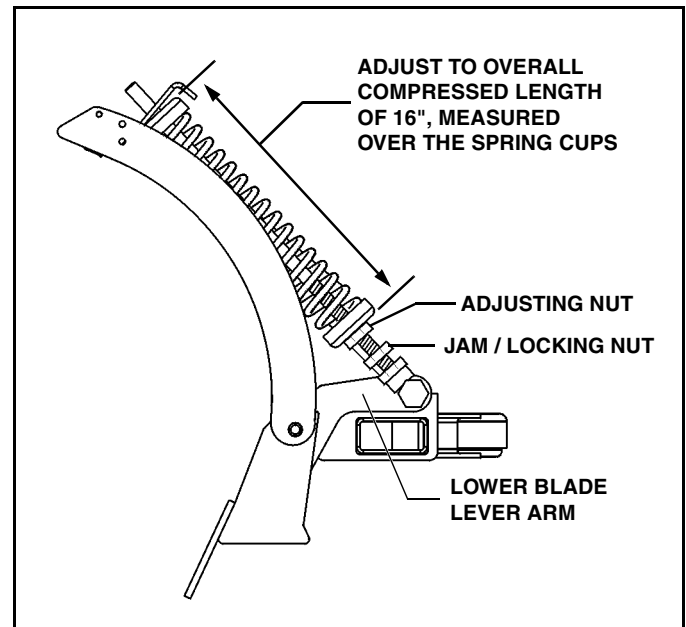

Figure 1-12
8. Adjust the trip spring loading (See Figure 1-12).):